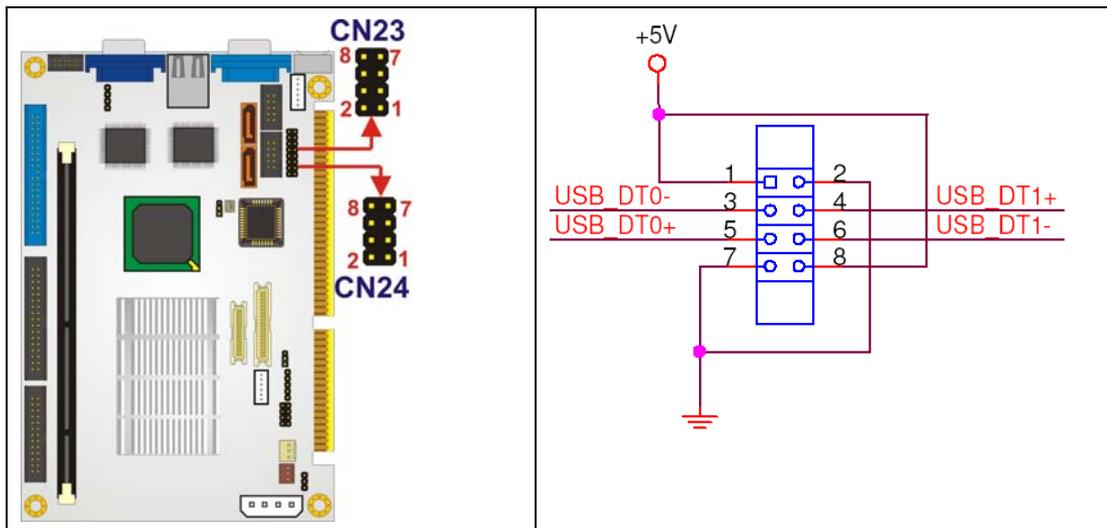

Figure 4-22: USB Connector Pinout Locations
- CN Location:** See Figure 4-22